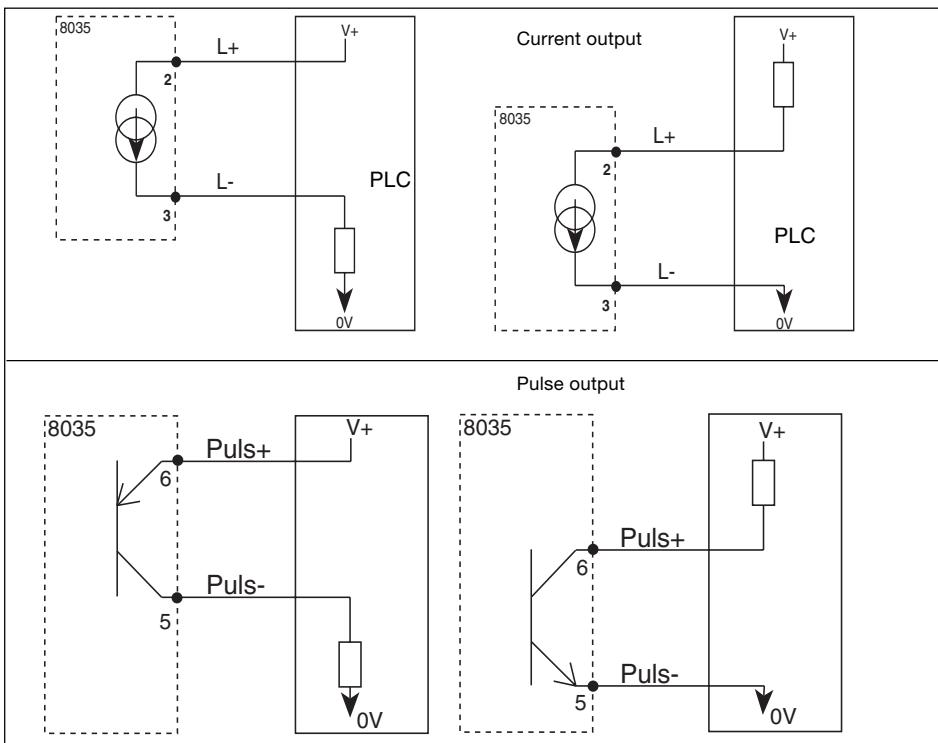

Fig. 3.5 SE35 without relay, connection to a PLC
**Note:** The pulse output of the Transmitter SE35 can easily be connected to a PLC.(fig. 3.5).
The current output of the transmitter electronic module SE35 without relay can easily be connected to any type of PLC. (see fig. 3.5).
The pulse output of the flow transmitter SE35 (with or without relay) can easily be connected to any type of PLC (see fig. 3.5 and example G-8).